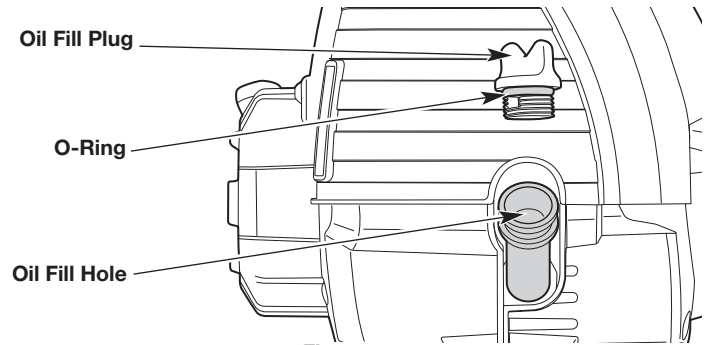

Fig. 11
4. Unscrew the oil fill plug (Fig. 11).
5. Pour the entire bottle into the oil fill hole (Fig. 11). **DO NOT** overfill. Refer to *Checking the Oil Level*.
NOTE: Make sure the O-ring is in place on the oil fill plug (Fig. 11).